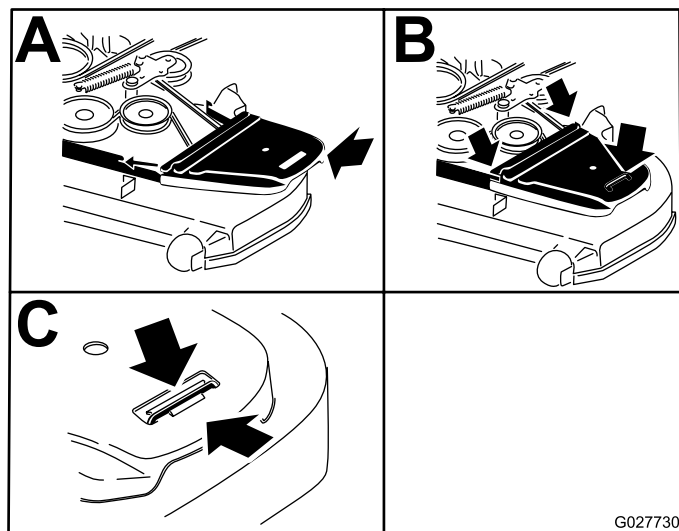

**Figure 59**
- Use a ratchet in the square hole in the idler arm to remove tension on the idler spring (Figure 59).
- Install the new belt around the mower pulleys (Figure 59).
8. Ensure that the spring ends are seated in the anchor grooves, and using the ratchet in the square hole, install the belt around the idler pulley (Figure 59).